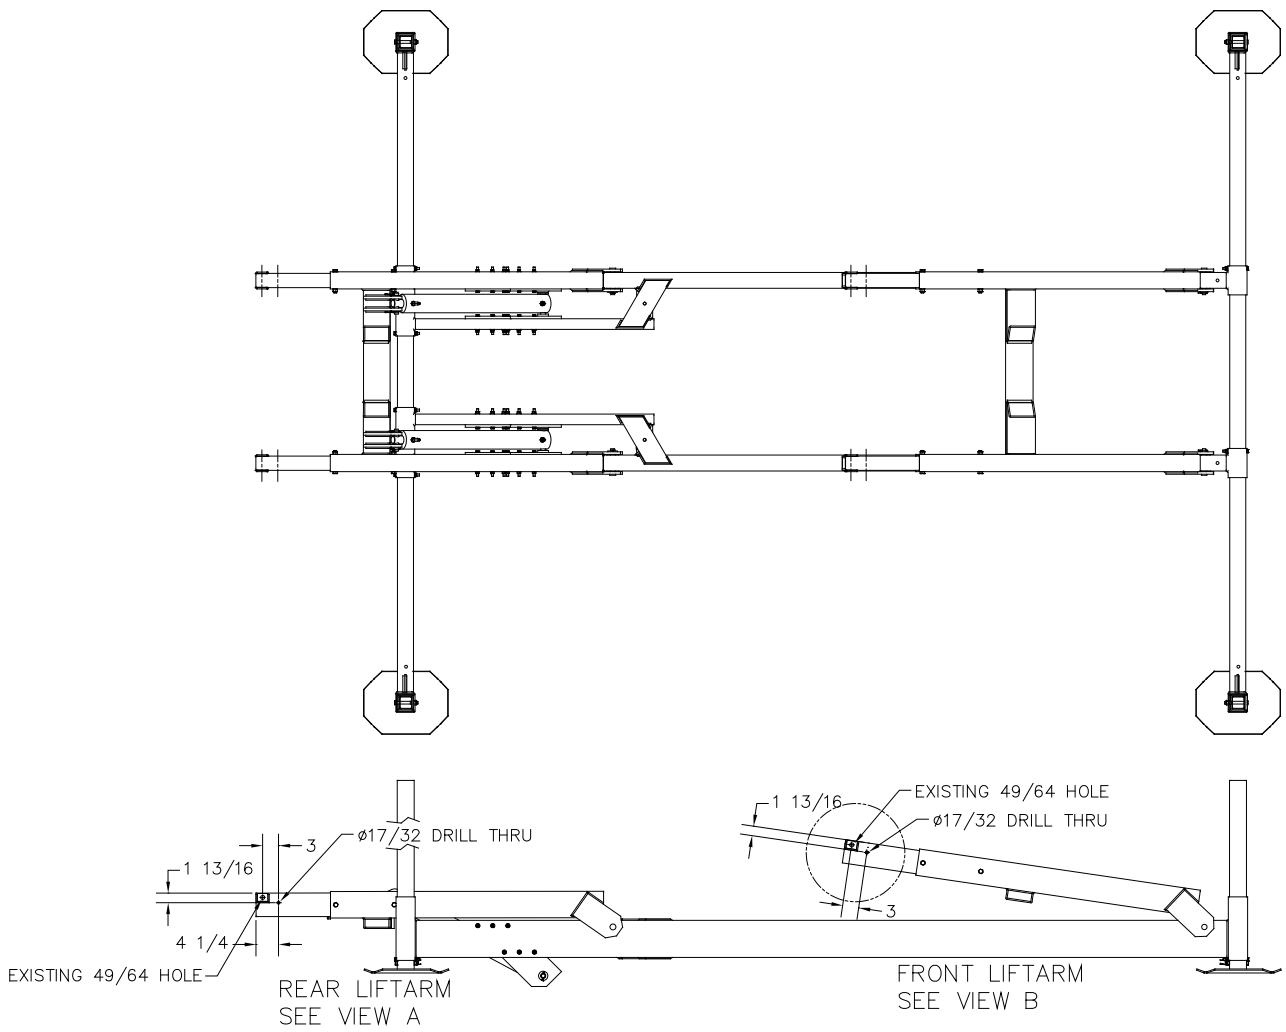

Figure 2-1B.
2. **Refer to Figure 2-1B & 2-2B.** Layout the holes shown in figures 2-1B & 2-2B for HL5-7K-60" lift. Drill 17/32" holes in front and rear extension tubes on the 60" lifts.